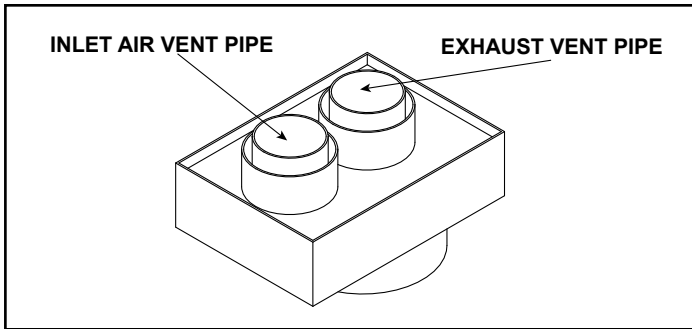

Figure 4.31 Coaxial/Colinear Appliance Connector
**See COAXIAL/COLINEAR Section and Figure 4.31.**